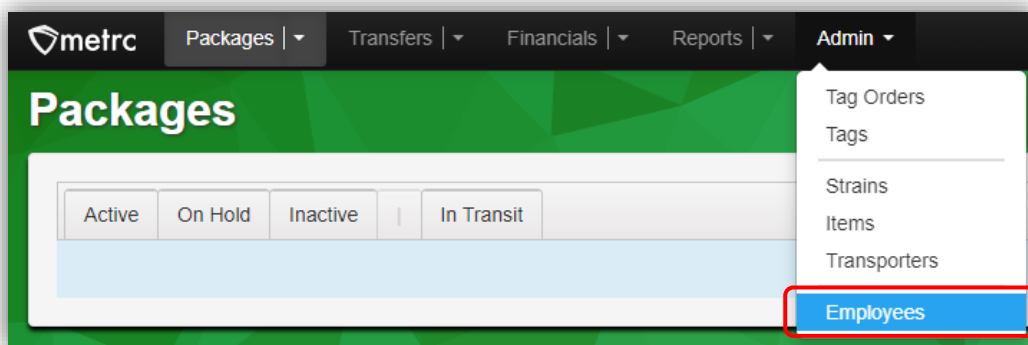

Figure 1: Employee area in Admin dropdown
- To add the permission to view and/or manage Processing Jobs, go to the Employees grid in the Admin area dropdown from the Navigational Toolbar – **see Figure 1.**